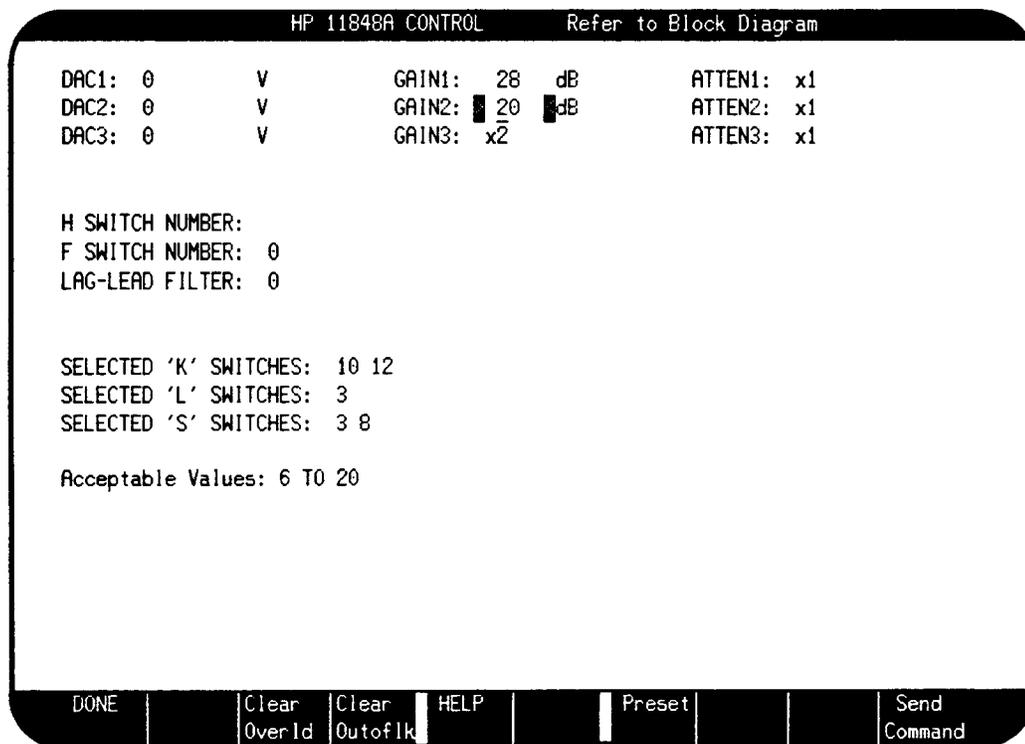

Figure 3-3. HP 11848A Control Display for FM Test
- d. Use the cursor control keys to move the cursor to the "SELECTED 'K' SWITCHES:" line then key in 10 and 12. (Refer to Figure 3-3.)
- f. Press the **Send Command** softkey to initiate the commands. The display should appear as in figure 3-3 except for the cursor position, the values following “GAIN1:” and “GAIN2:” (which will be entered later), and the bottom line.
7. Fine tune the Signal Generator’s carrier frequency until the front-panel meter of the system’s interface reads approximately 0. This establishes quadrature in the interface’s phase detector to make it function as a linear phase detector. (The display should now appear as in Figure 3-3.)